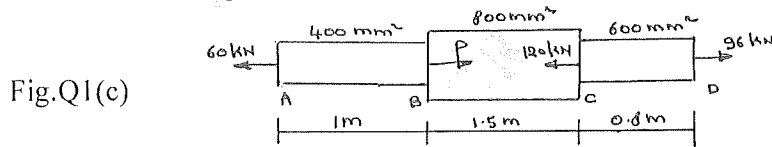

Fig.Q1(c)
- c. A steel bar ABCD of varying sections is subjected to the axial forces as shown in fig.Q1(c). Find the value of P necessary for equilibrium. If $E = 210 \text{ kN/mm}^2$, determine